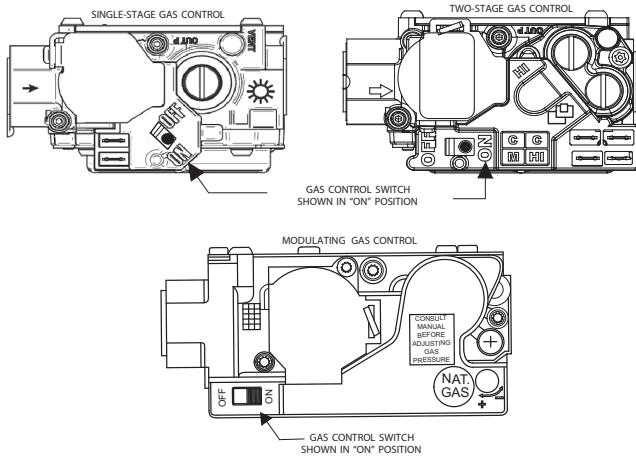

Fig. 12 – Control Switch to ON
- After waiting five minutes, turn control switch on the gas control to the ON position. Turn the control switch to ON. See Fig. 12.